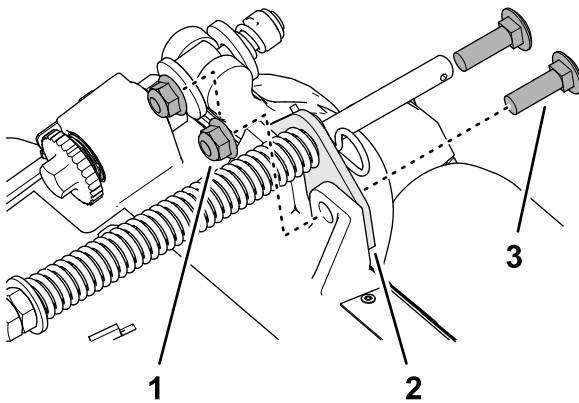

**Figure 6**
1. If the hairpin is installed in the rear hole of the compensation-spring rod—remove the hairpin and insert it in the hole next to the bracket (Figure 6).